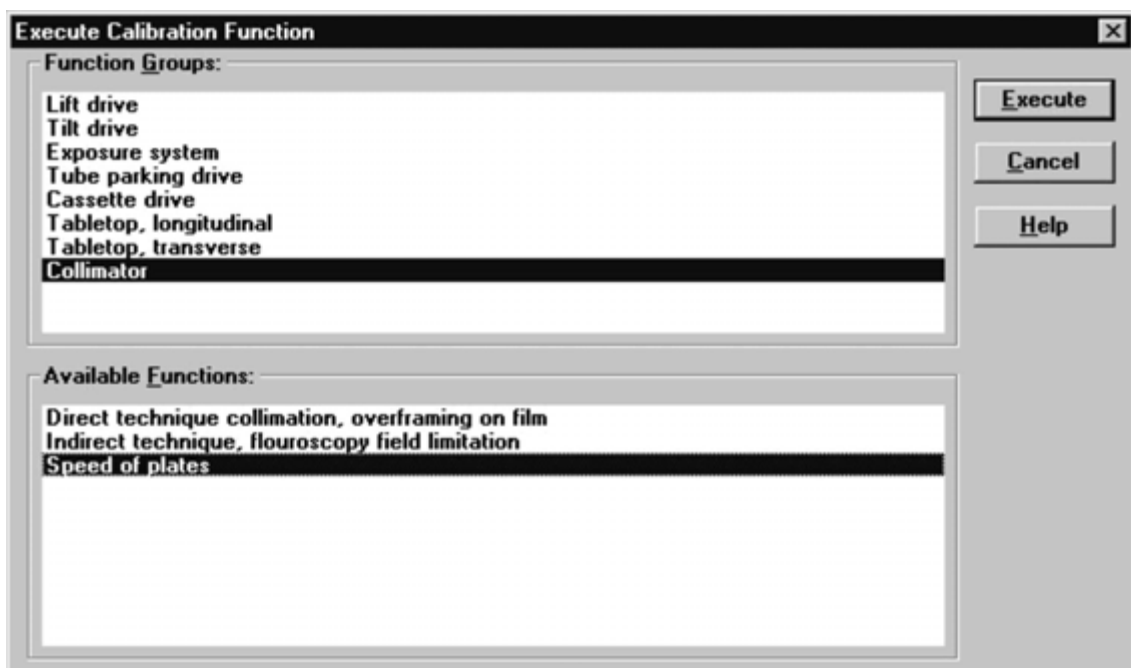

Fig. 21:
- Select **Speed of plates** (Fig. 21 / p. 42).